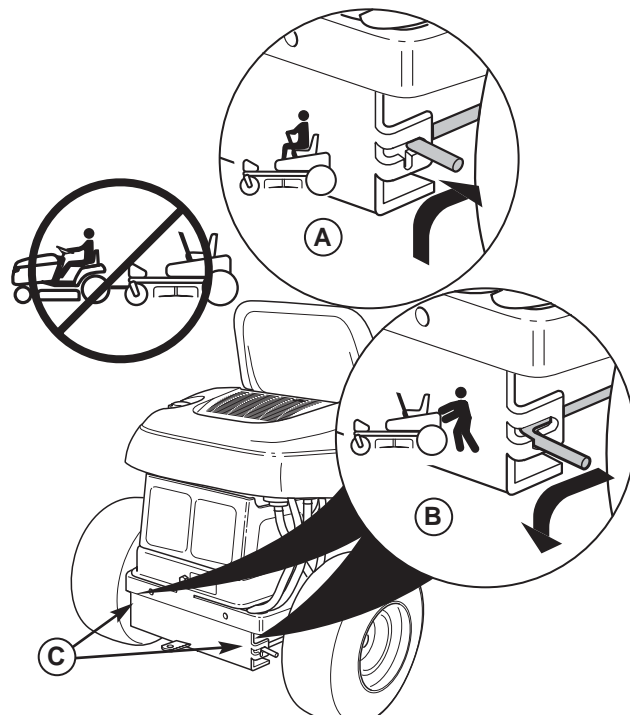

Figure 3. Transmission Release Levers
2. Locate the transmission release levers (C, Figure 3) at the rear of the unit.
3. Pull **both** levers back and down to release the transmissions (position B, Figure 3).
5. After moving the rider, set the ground speed control levers to START/PARK and push **both** transmission release levers forward to re-engage the transmissions (position A, Figure 3).